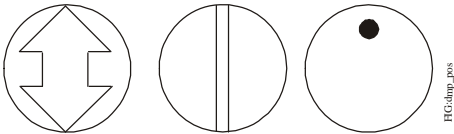

Figure 2: Damper Position Icons
1. Check that the damper blade is visually accessible, or its position is permanently marked on the end of the damper shaft, as illustrated in Figure 2.